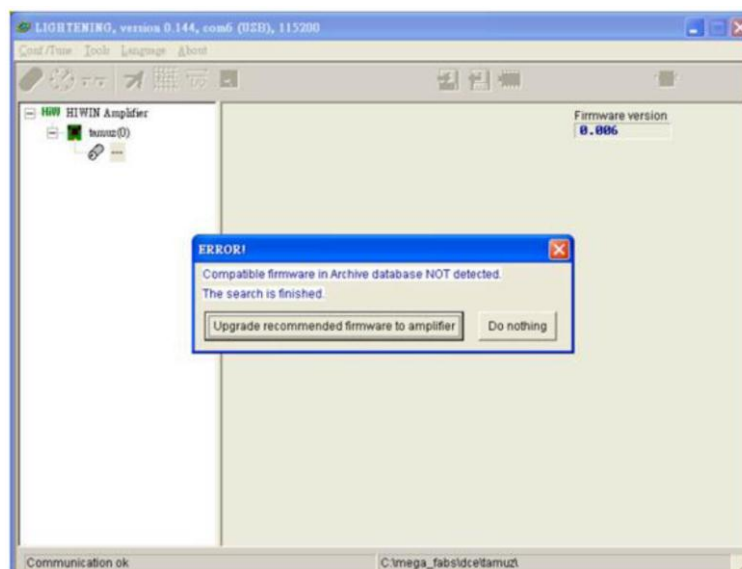

Fig. 4-10 Firmware version installation error message
**Note:** When using Lightening 0.144 (or older versions) for connection to a D2-model drive, or using Lightening 0.180 (or older versions) for connection to a D2T-model drive, an installation error message as shown in Fig. 4-10 appears after the connection. This is because these HMI versions do not contain the firmware version (e.g. v0.006) of D2-model or D2T-model drive. Thus, Lightening cannot identify these drives. Please click 'Do nothing' and download the latest version of Lightening from the HIWIN website.